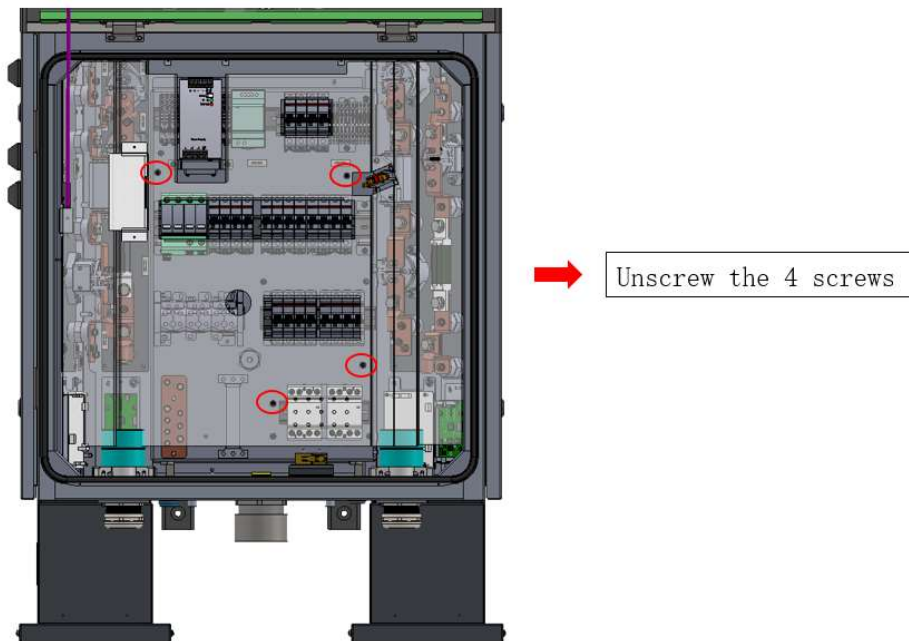

Figure 14 Remove the protective cover
(7) From the front of the box, unscrew the screws of the transparent protective cover and remove the transparent protective cover, as shown in Figure 14.